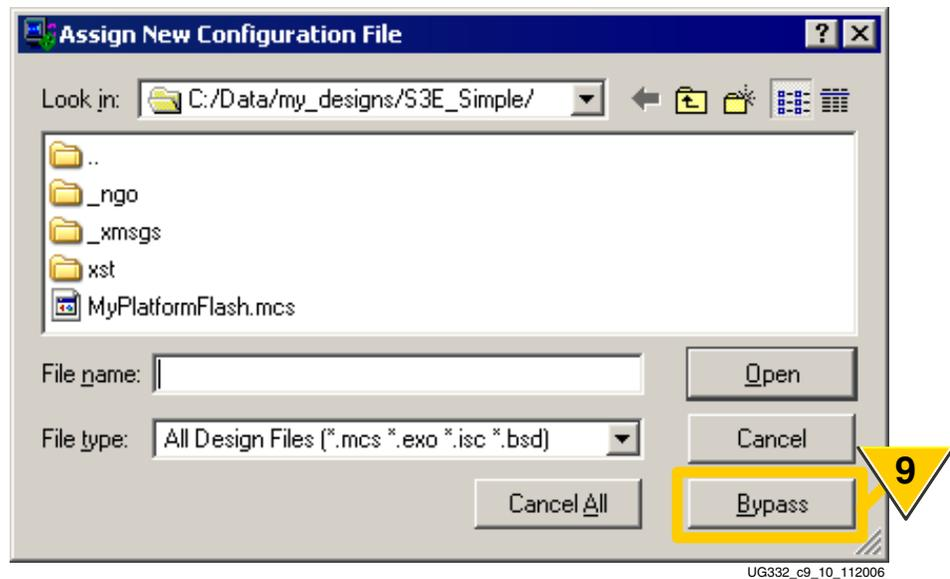

Figure 9-12: **Click Bypass to Skip Platform Flash Programming**
- For faster downloading and a shorter FPGA debugging cycle, there is no need to program the Platform Flash PROM or CPLD unless actually desired. To skip programming the Platform Flash PROM, click Bypass, as shown in Figure 9-12.